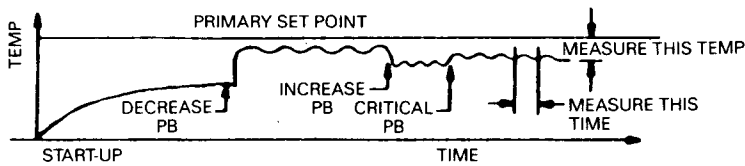

Figure 4-6. Oscillation Time
7. Measure the oscillation time, in minutes, between neighboring peaks or valleys (see Figure 4-6). This is most easily accomplished with a chart recorder, but a measurement can be read at one minute intervals to obtain the timing.